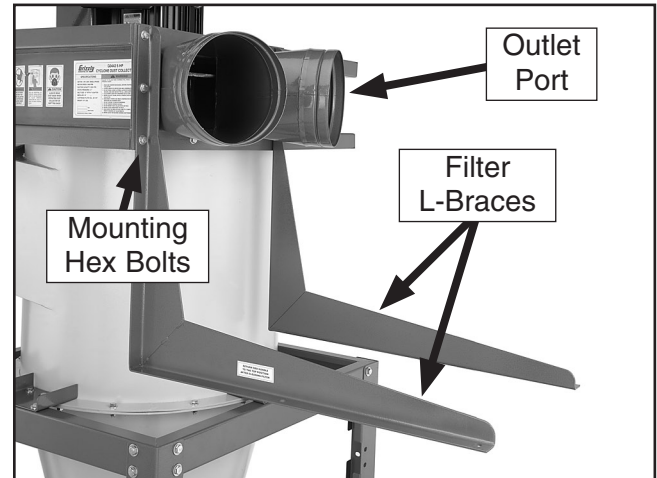

Figure 25. Filter L-braces mounted to blower housing.
- Mount the outlet port to the blower housing with (4) $\frac{5}{16}$ "-18 x 1" hex bolts, (8) $\frac{5}{16}$ " flat washers, and (4) $\frac{5}{16}$ "-18 hex nuts (see **Figure 25**).